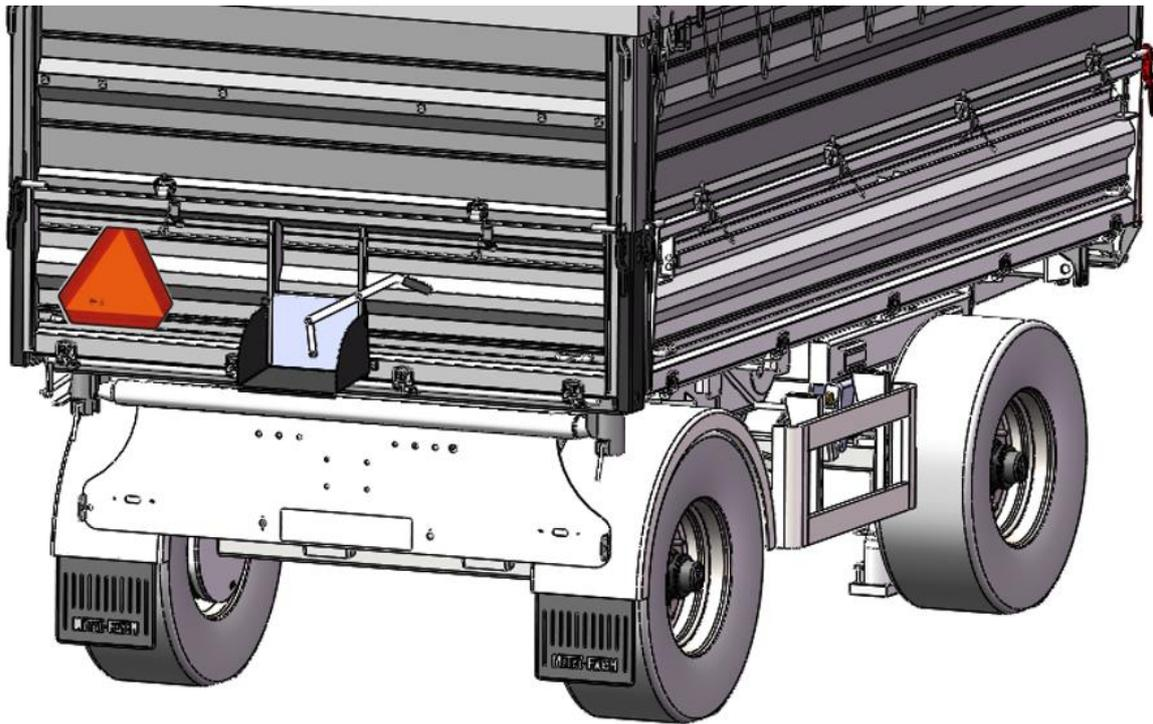

Fig. 20. The location of the triangle indicating slow-moving vehicles
- remove the pin connecting the load-carrying body to the chassis frame (Fig. 20, Fig. 21):